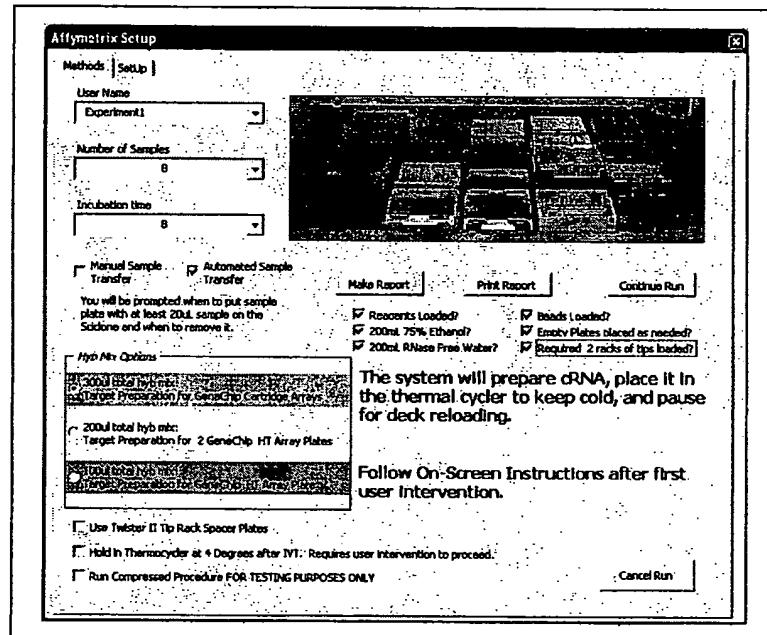

Figure B.2
- F. Use the six-option checklist on the right side of the window to ensure all reagents and consumables are loaded, and select each option (all six boxes should be checked as in Figure B.2). The Continue Run button becomes enabled.